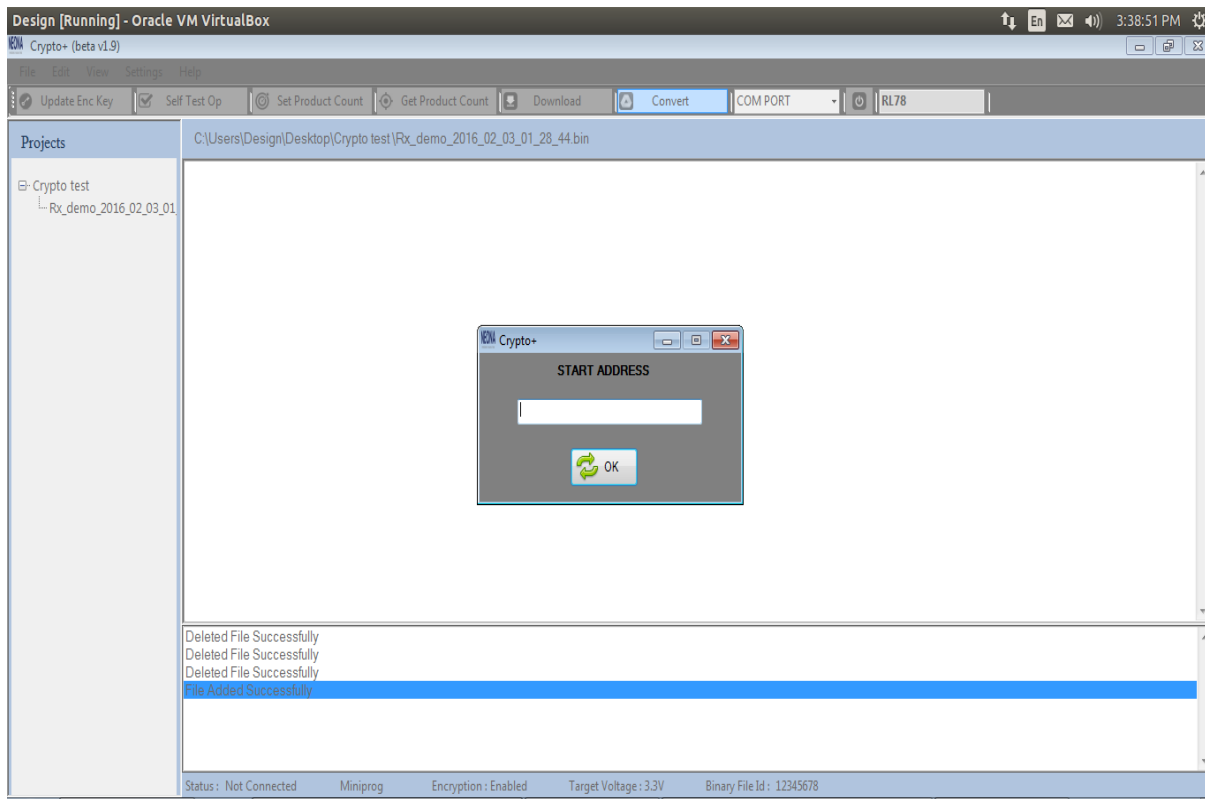

**Figure 2.27**
**STEP 5:** After the successful creation of the .ebx file a message ‘new output ebx file created’ is displayed in the text view and the .ebx file will be added in the tree-view as shown in figure 2.27.